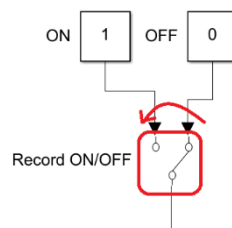

Figure 11: On/Off switch
Step 8: Start recording data by **double clicking** on the “Record On/Off” switch shown in figure 11. Make sure the switch is now pointing to the left.